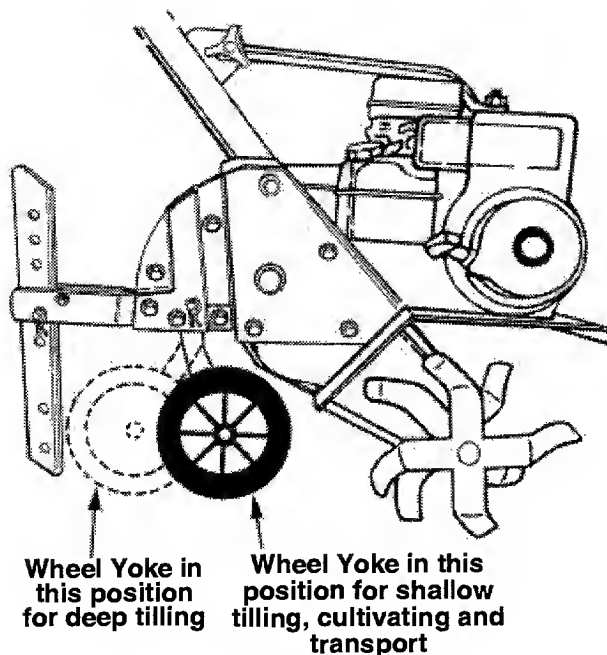

Figure 10
1. **Wheel Yoke Adjustment:** Place wheel yoke so that the wheels are forward (nearest point between wheels and tines) for shallow tilling, cultivating and transport. The forward speed will increase. Turn yoke around (farthest point between wheels and tines) for deep tilling. Forward speed will decrease. See Figure 10.